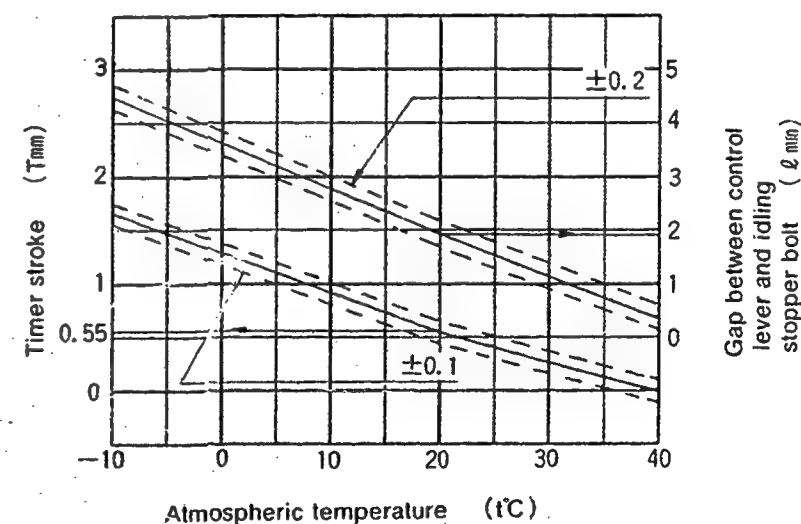

Fig. 2
1. Calculate the timer stroke from Fig. 2 according to the atmospheric temperature at the time of adjustment.
1. Calculate the block gauge dimension  $L \pm 0.05$  mm from Fig. 2 according to the atmospheric temperature at the time of adjustment.
### Formula for calculating Fig. 2